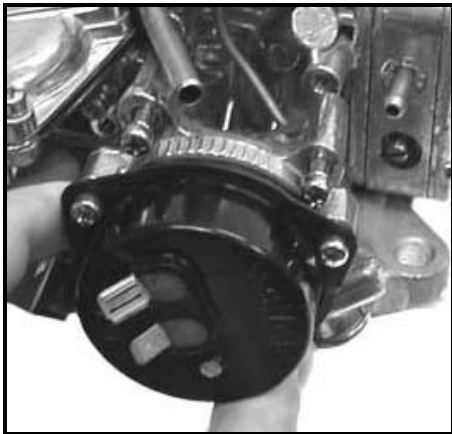

Figure 15
1. Remove the choke cap (electric choke) and choke housing (manual and electric choke) to gain access to the third screw retaining the vacuum diaphragm to the main body (Figure 15).